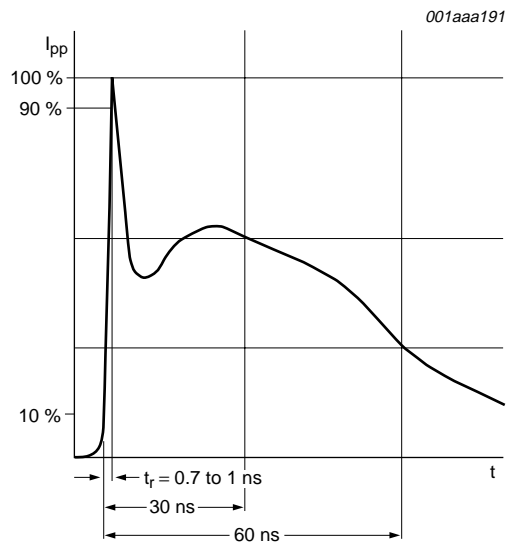

Fig.3 ElectroStatic Discharge (ESD) pulse waveform according to IEC 61000-4-2.
1. Device stressed with ten non-repetitive ElectroStatic Discharge (ESD) pulses; see Fig.3.
IEC 61000-4-2; level 4 (ESD); see Fig.3	>15 kV (air); > 8 kV (contact)